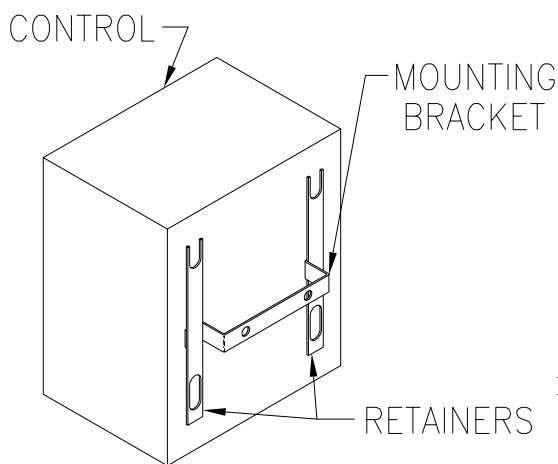

Figure 4. Console and Mounting Bracket
4. Using appropriate hardware based on wall construction, anchor the mounting bracket to the wall (Figure 4).